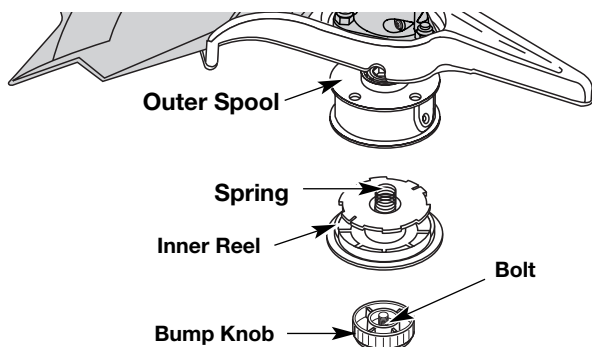

Fig. 30
1. Hold the outer spool with one hand and unscrew the Bump Knob clockwise (Fig. 30). Inspect the bolt inside the bump knob to make sure it moves freely. Replace the bump knob if damaged.
2. Remove the inner reel from the outer spool (Fig. 30).
3. Remove spring from the inner reel (Fig. 30).
1. Hold the outer spool with one hand and unscrew the bump knob clockwise (Fig. 30). Inspect the bolt inside the bump knob to make sure it moves freely. Replace the bump knob if damaged.
2. Remove the old inner reel from the outer spool (Fig. 30).
3. Remove the spring from the old inner reel (Fig. 30).